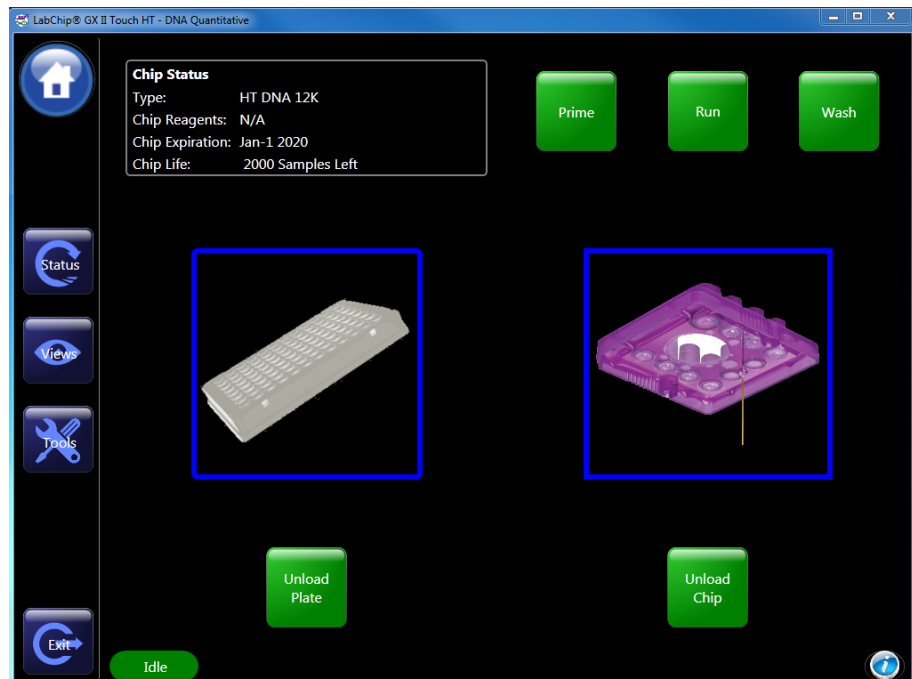

Figure 4. Home screen.
- 5 Touch the *Load Plate* button on the *Home* screen (Figure 4) to retract the sample plate and send the sipper to the Buffer Tube.